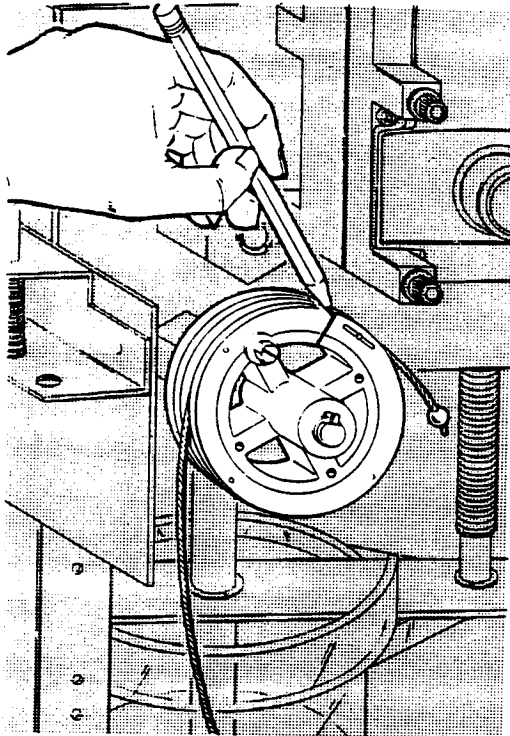

FIGURE 3.8
2. Mark the inner and outer section of the cable spool with a pencil line across both pieces to provide a reference mark. See FIGURE 3.8.